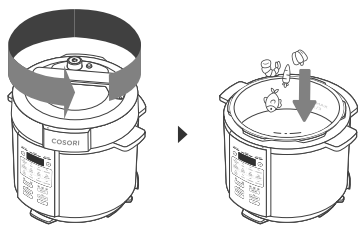

Figure 6.1
- 1. Twist the lid counterclockwise and lift to remove. **Do not** use the pressure cooker lid when using the **SAUTE** cooking function. [Figure 6.1]